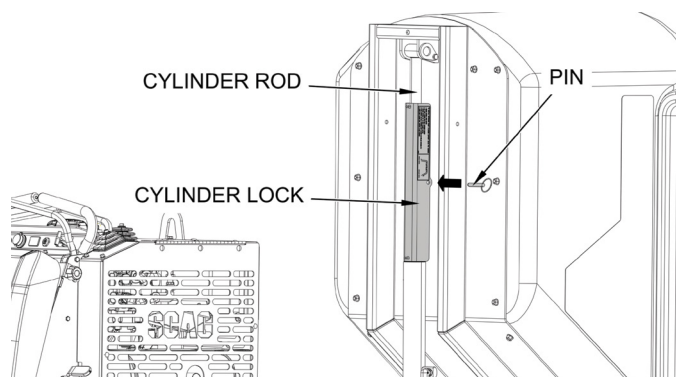

Figure 6-3. Positioning the Cylinder Lock
5. Install the cylinder lock over the lift cylinder rod and secure in place using the pin. See Figure 6-3.